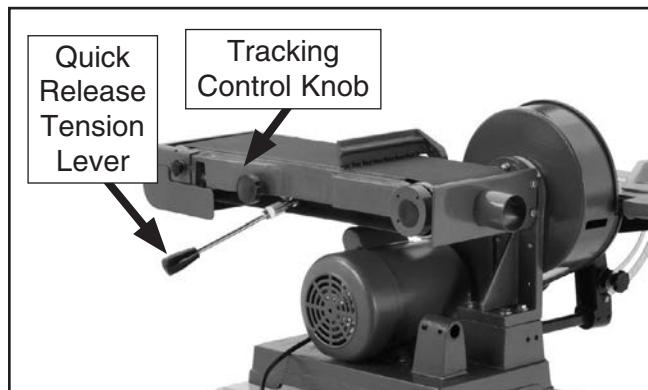

Figure 51. Belt tracking and tension controls.
2. Loosen the lock nut on the tracking control knob (see **Figure 51** on **Page 31**), then move the quick release tension lever to the tensioned position.
Belt Tracking and Tension: The quick release tension lever (see **Figure 51**) tensions the belt. To tension the sanding belt, move the quick release tension lever toward the motor.